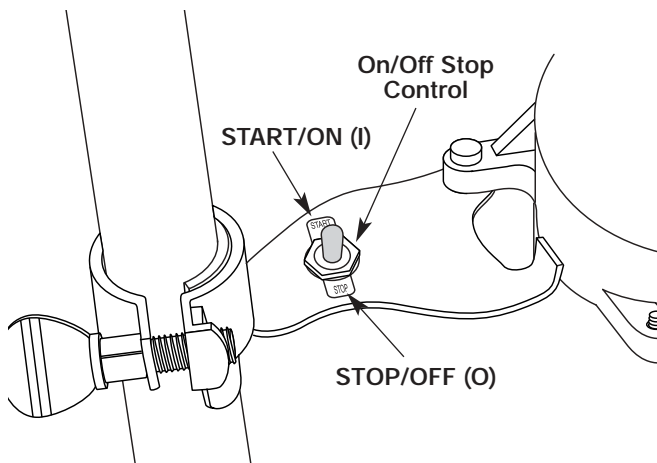

Figure 17
2. Put the On/Off Stop Control in the START (I) position. See Figure 17.
NOTE: Choking is unnecessary when starting a warm engine. Put the On/Off Stop Control in the START (I) position and start in PARTIAL Choke position (B |←|). See Figures 17 and 18.
2. Put the On/Off Stop Control in the STOP (O) position. See Figure 17.